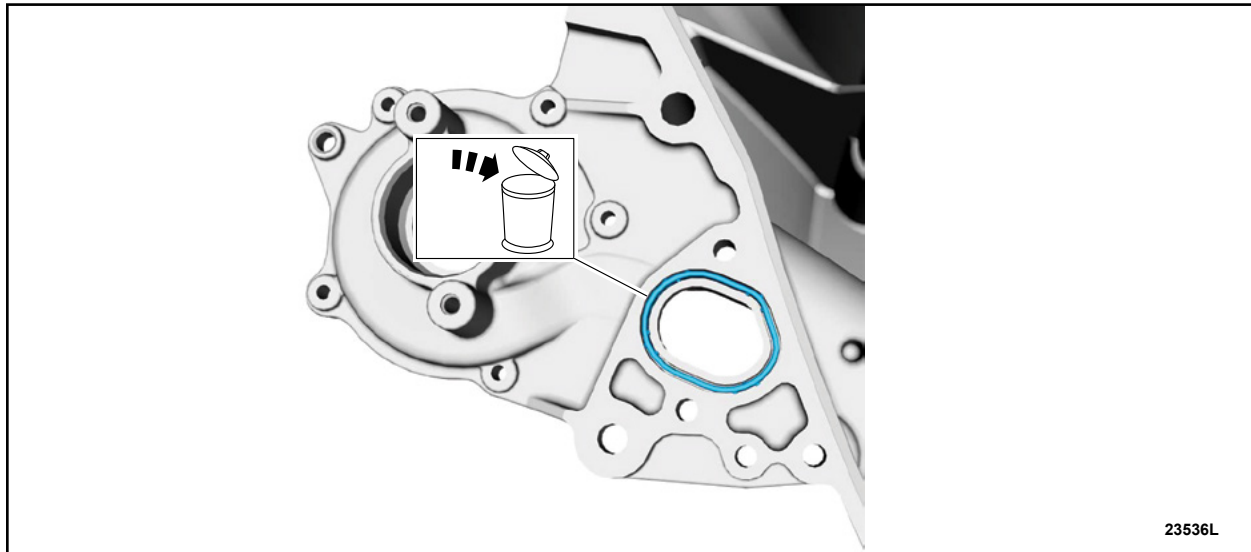

FIGURE 14
20. Remove and discard the gasket. See Figure 14.